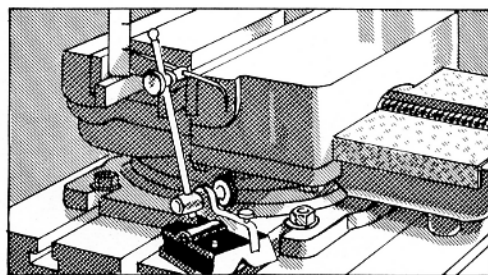

FIG. 301
3. Hold a scale in a vertical position with one end on a parallel which supports the work, or on the bottom of the vise if the work is seated on it. (Fig. 301).
4. Set the point of the scribe to the dimension on the steel rule which coincides with the thickness of the finished work. (Fig. 301).